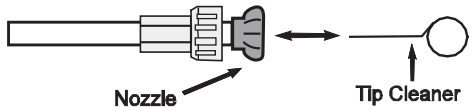

Figure 3 - Insert tip cleaner in nozzle hole and move back and forth until debris is dislodged
- Using included tip cleaner, or an unfolded paper clip, insert wire into the nozzle hole and move back and forth until debris is dislodged. (figure 3.)